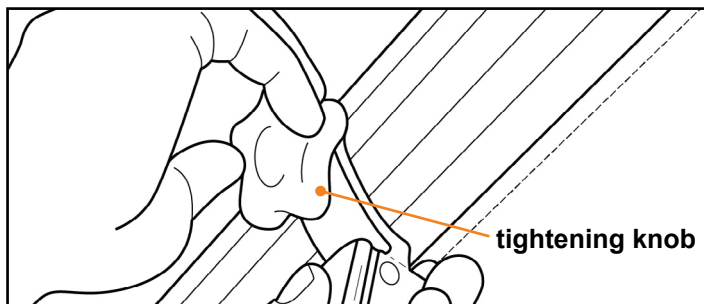

Fig.49
3. Remove the tightening knob from the Ground Support assembly (Fig.49). Remove the entire assembly from the roll tube.